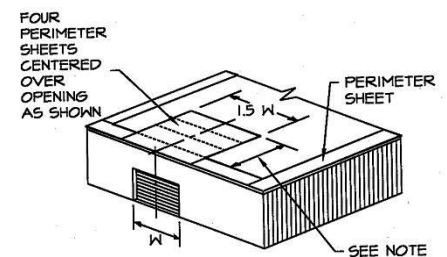

Figure 1
1. **Buildings with large openings (Figure 1)** - When any wall contains major openings with a combined area which exceeds 10% of the total wall area on which the